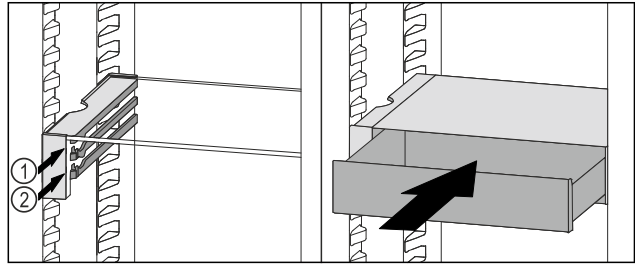

Fig. 119
- ▶ Place the VarioSafe drawer behind the stoppers on desired rib Fig. 119 (1) or Fig. 119 (2).